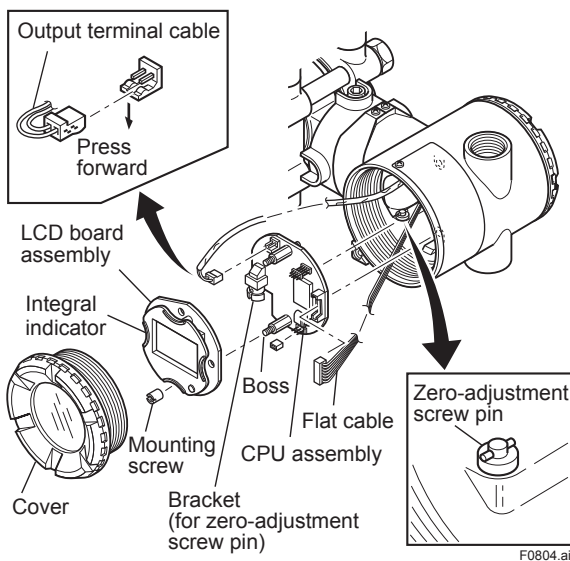

Figure 8.4 Removing and Attaching LCD Board Assembly and CPU Assembly
This subsection describes the procedure for replacing an integral indicator. (See Figure 8.4)
This subsection describes the procedure for replacing the CPU assembly. (See Figure 8.4)
- 2) Turn the zero-adjustment screw to the position (where the screw head slot is horizontal) shown in Figure 8.4.